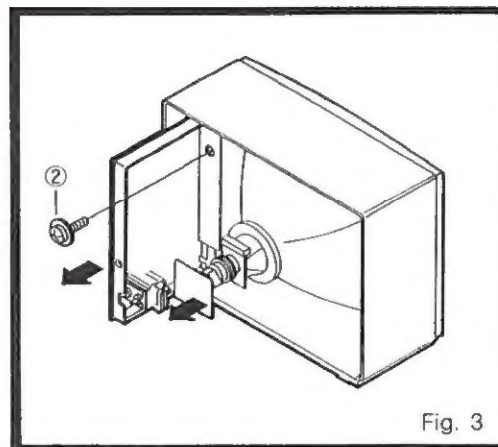

Fig. 3
2. REMOVAL OF MAIN PCB (Fig.3)
- ② 3x10 Screw